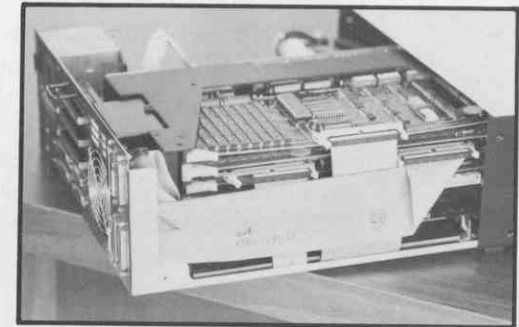

Figure 70 Workstation and Chassis
- 5.3 Position the workstation and chassis as shown in Figure 70.